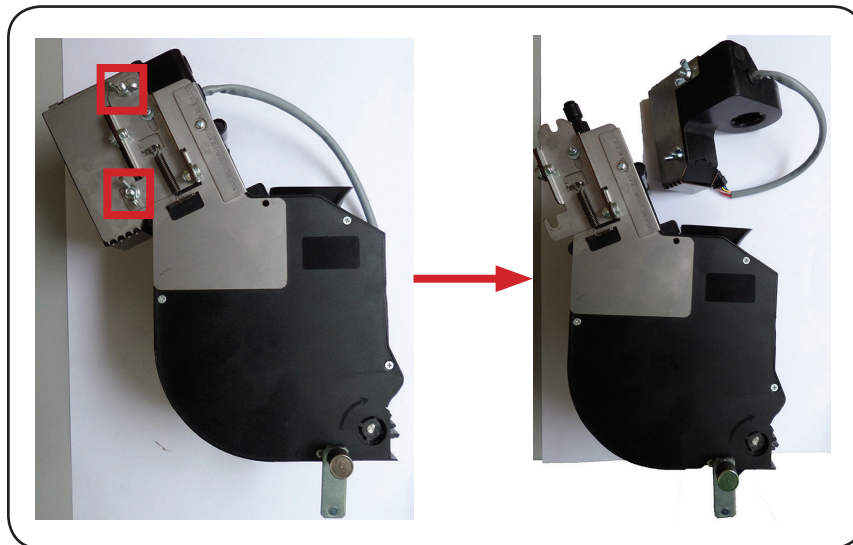

Fig.10.9 - Vario-brewer cleaning
- Extract the espresso group from the vending machine (see the manual and fig. 10.9)
- Loosen two butterfly screws and disconnect the gear motor from the vario-group (fig. 10.9)